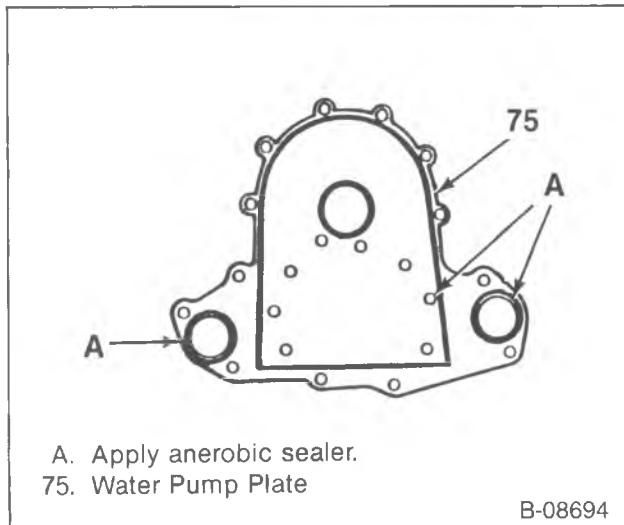

Figure 46—Applying Sealer to the Water Pump Plate
- Bolts (88) to 22 N·m (16 ft. lbs.).
- Apply a bead of anaerobic sealer (GM part no. 1052357 or equivalent) to the water pump plate as shown in figure 46.
- Apply sealant (GM Part no. 1052080 or equivalent) to the threads of bolts and studs (76).
- Bolts and studs (76).